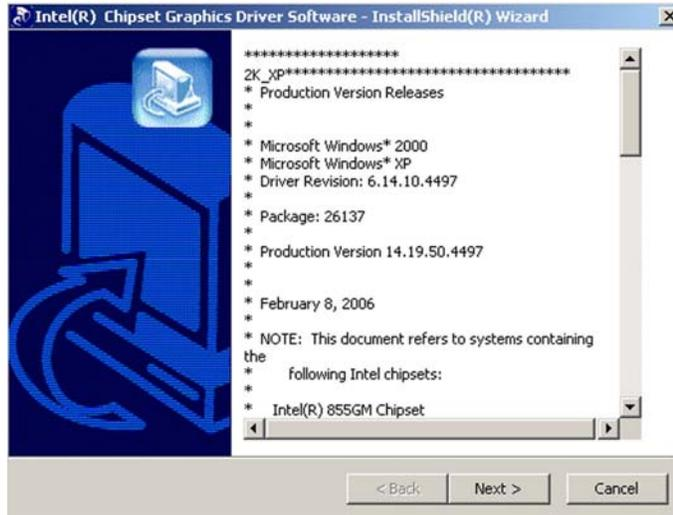

Figure 6-9: GMA Driver Readme File
Step 6: The Readme information file shown in **Figure 6-9** appears.